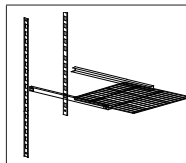

Figure 2
- Place the self support inside the refrigerator, in the most suitable position for use, inserting each support in to the holes on the base of the refrigerator and inserting the side tab in the appropriate place on the sides or on the table supports. (Fig. 2)
- Slide the shelf into the supports as shown in. (Fig. 2)